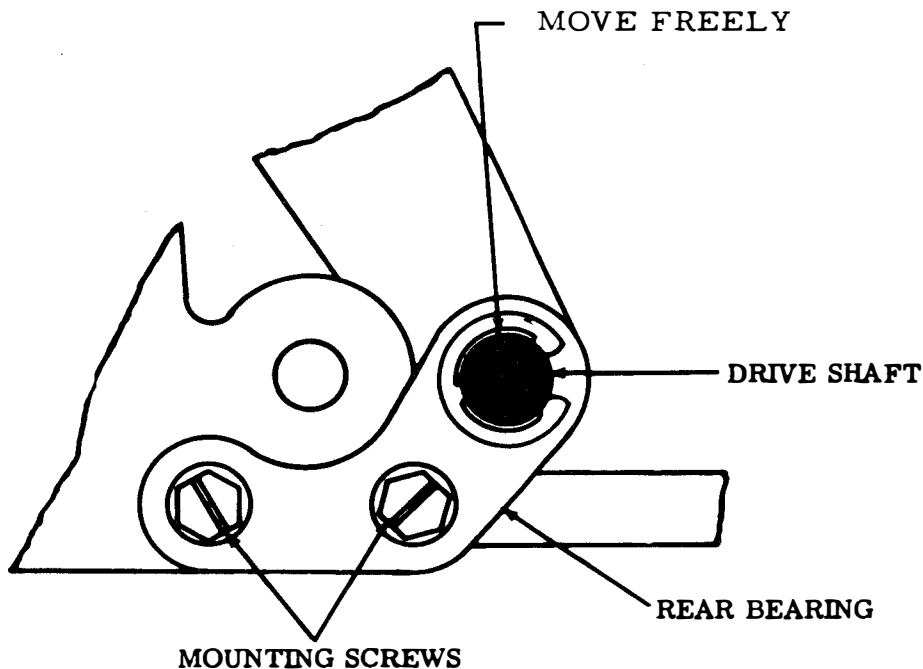
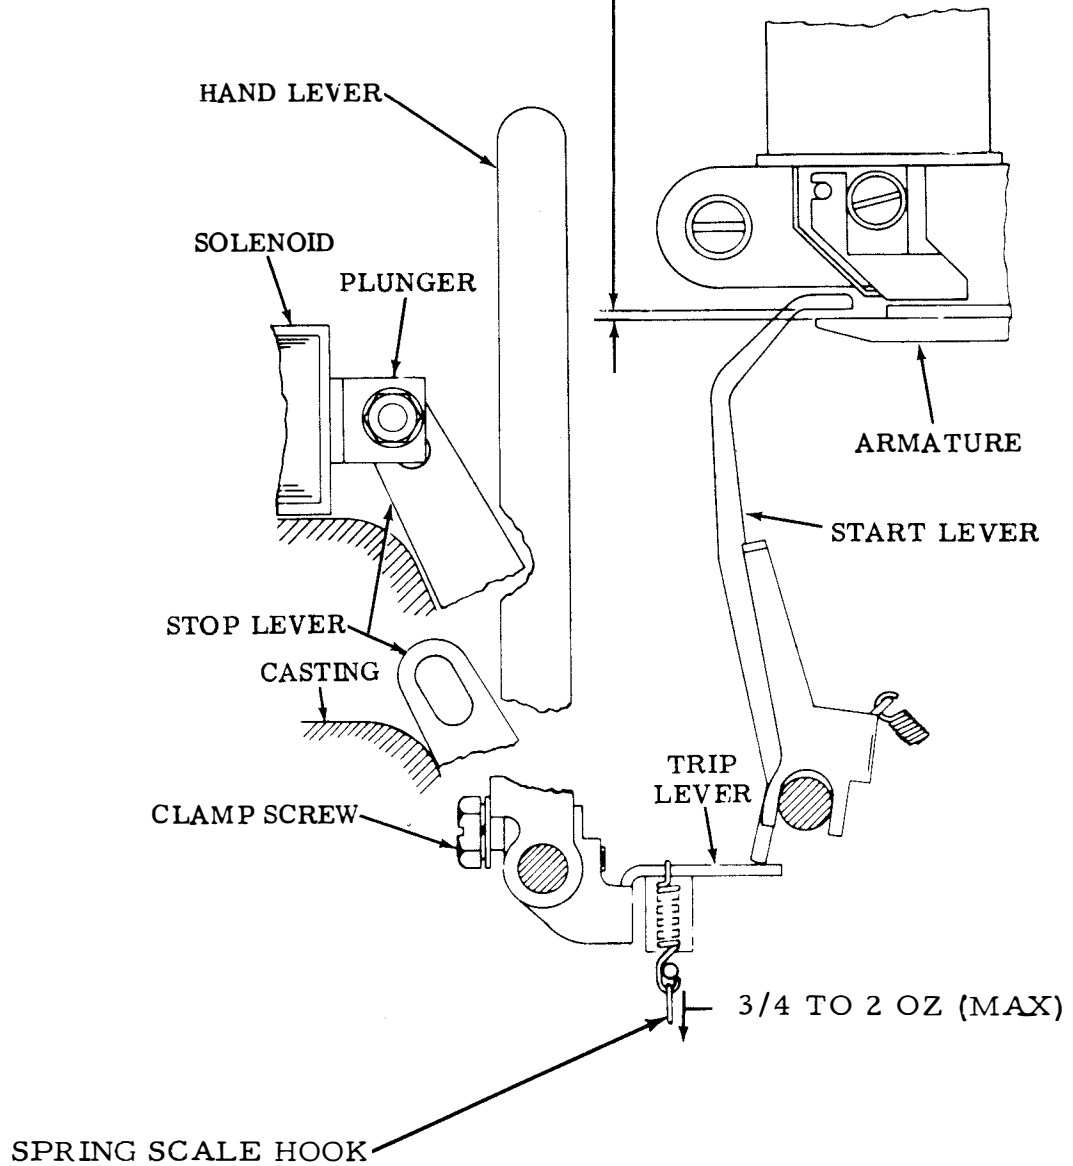

Figure 6-219. Drive Shaft Rear Bearing - Rear View
Figure 6-220. Trip Lever (Manually and Solenoid Operated) and Traip Lever Spring
(1) Drive Shaft Rear Bearing. Adjust as follows:
- (a) Refer to figure 6-219.
(2) Trip Lever (Manually Operated). Adjust as follows:
- (a) Refer to figure 6-220.
(3) Trip Lever (Solenoid Operated). Adjust as follows:
(a) Refer to figure 6-220.